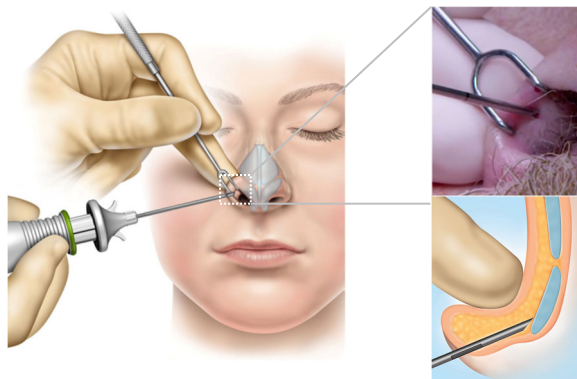

Figure 8: Images showing the approximate *Delivery Device* orientation, cannula trajectory and pierce point.
9. The ala may be everted using a double prong skin hook under direct visualization. Ensure the cannula bevel and reference mark is facing medial before pierce. Insert the *Delivery Device* cannula perpendicular to the septum through the nasal vestibular lining of the lateral wall until the tip reaches the caudal aspect of the lower lateral cartilage. The cannula reference mark may be used as an aid to determine insertion depth. Approximate *Delivery Device* orientation, cannula trajectory and depth are shown in **Figure 8** below.